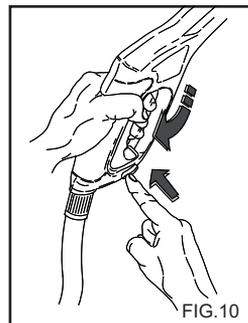

FIG. 10
- When the water cleaner is not used, close the safety device on the handle. (fig. 10).